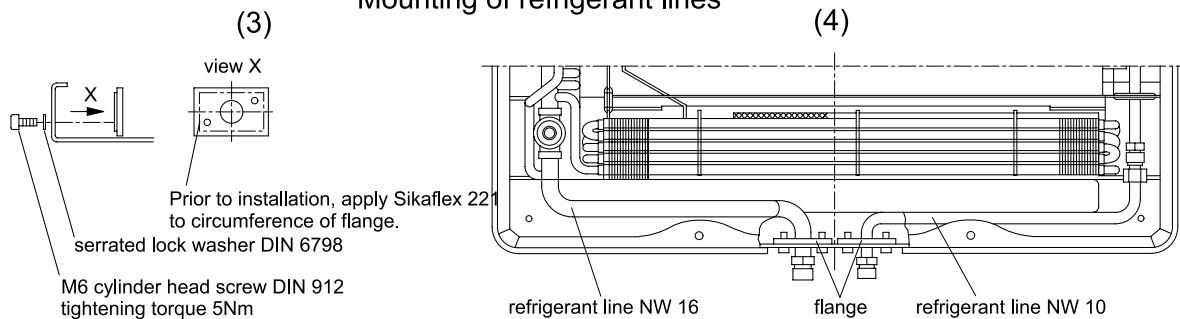

Fig. 4.11
- b) If you ordered the installation kit for external hose installation, the two hose lines contained in this kit must be installed as set out below (Fig. 4.11).
- Coat the NW 16 and NW 10 pipelines on the flange plates with Sikaflex 221, see Fig. 4.11 (3)
- Working from the inside, insert the NW 16 pipeline into the cut-out in the base plate, connect it to the expansion valve outlet and secure it to the expansion valve using the M6 screw from the installation kit (tightening torque 5 Nm). See Fig. 4.11 (4).
- Working from the inside, insert the NW 10 pipeline into the cut-out in the base plate, connect it to the condenser inlet, and secure it with the union nut. Fig. 4.11 (4)
- Secure the pipelines to the base plate from the outside using the M6 cylinder head screws and fan-disk washers (tightening torque 5 Nm). See Fig. 4.11 (4).